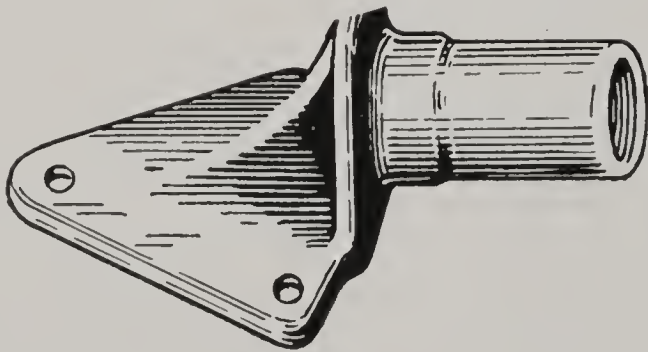

Fig. 73
**33. Tie-Rod Bracket on Ford Radiator**—The threads in tie-rod bracket, Fig. 73, become damaged and necessitate renewing the casting. This bracket is riveted with